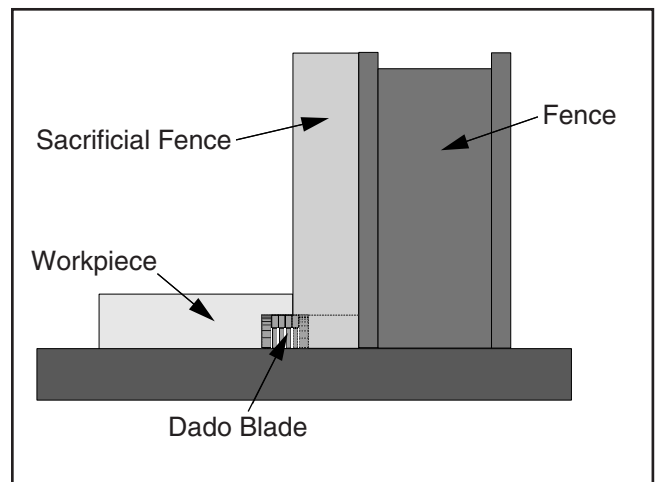

Figure 45. Rabbet cutting.
3. Adjust the fence and align the workpiece to perform the cutting operation as shown in **Figure 45**.